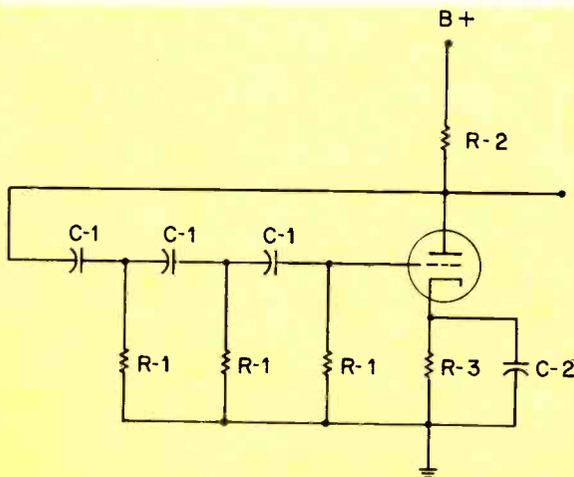

Fig. 1—Simplified schematic of phase shift oscillator.
■ You wouldn't think that a phenomenon as simple as phase shift could have so many applications. But it does. The phase shift oscillator of Fig. 1 is a good example. An oscillator is defined as an amplifier with feedback such that the output is in phase with and enforces the input.
This is exactly what a phase shift oscillator is. The common cathode electron tube amplifier has an inherent 180 deg phase shift. As seen in Fig. 1 the plate output is fed through an RC phase network which has a total shift of 180 deg. This plus the 180 deg shift of the tube makes a total shift of 360 deg. Since a 360 deg shift is the same as zero deg the grid of the tube is actually in phase with the plate. With the input feeding the output in phase, the circuit oscillates. The only other requirement for